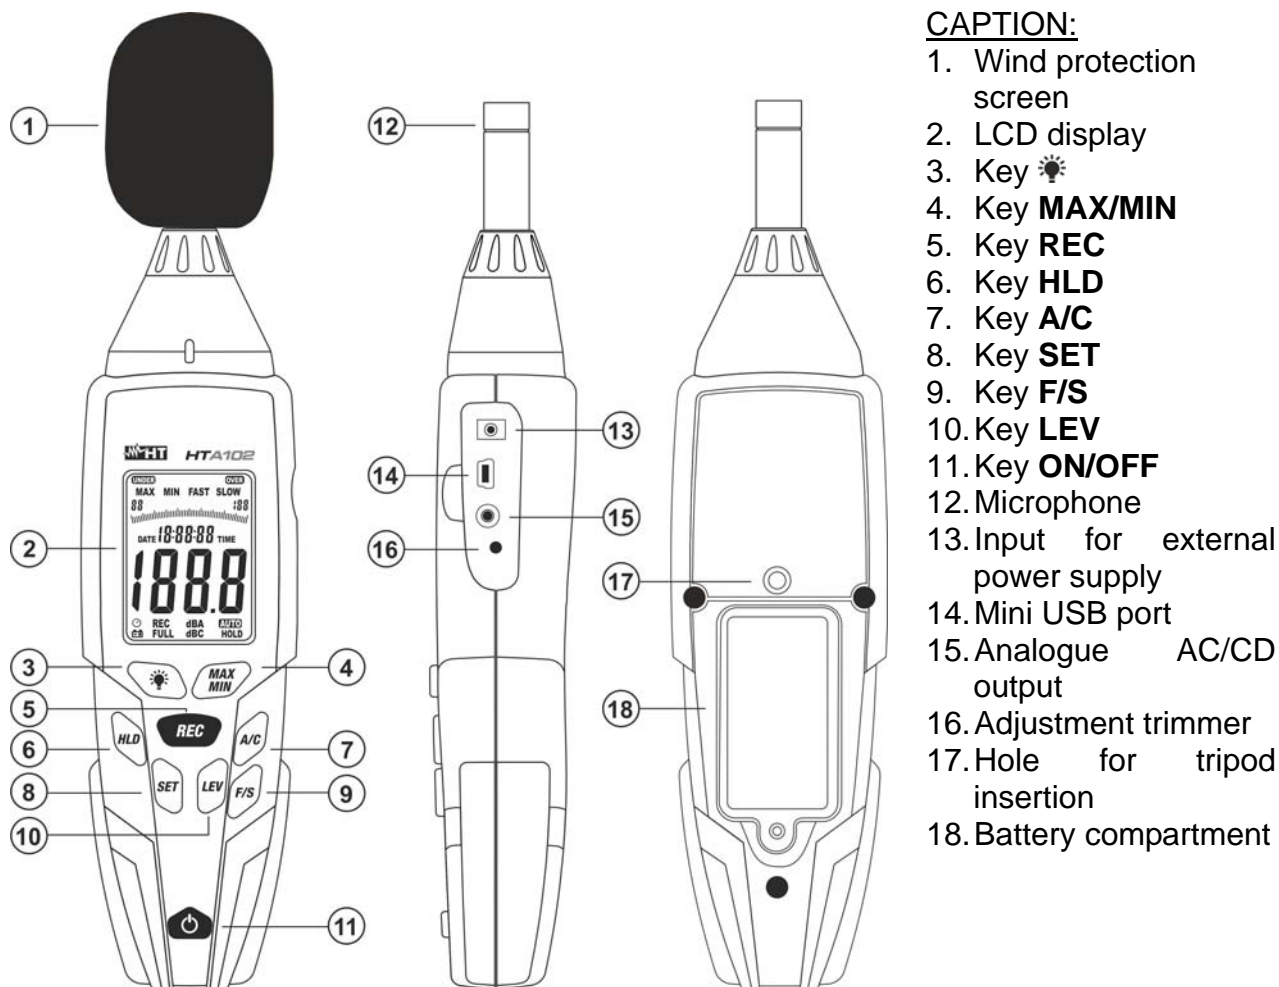
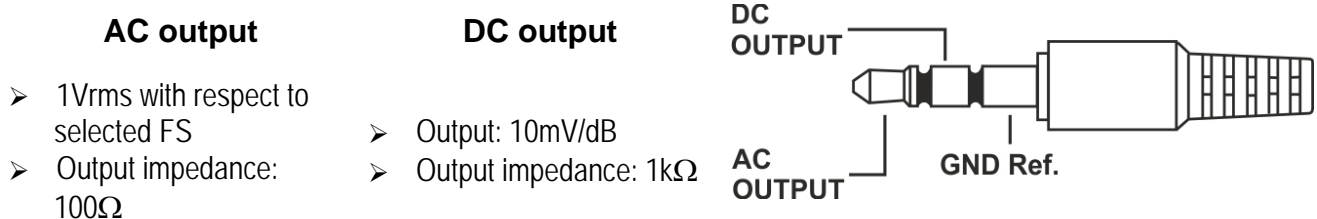

Fig. 1: Description of the instrument
Fig. 10: Analogue AC/CD output characteristics
8. For a better comfort, use the provided tripod by inserting it into the relevant threaded hole on the instrument's back side (see Fig. 1 – part 17).
13. Connect the provided external power supply to the instrument's input (see Fig. 1 – part 13).
16. Connect the instrument to the PC via the provided USB cable (see Fig. 1 – part 14).
The instrument can be connected to external multimeters and/or dataloggers for recording through the analogue AC/DC output found on the instrument's side (see Fig. 1 – part 15) by using a 3.5mm jack, not provided. The characteristics of the analogue output are indicated in the following Fig. 10
5. Insert the provided screwdriver into the trimmer (see Fig. 1 – part 16) and carry out a manual adjustment until the result "94.0" is shown on the display.